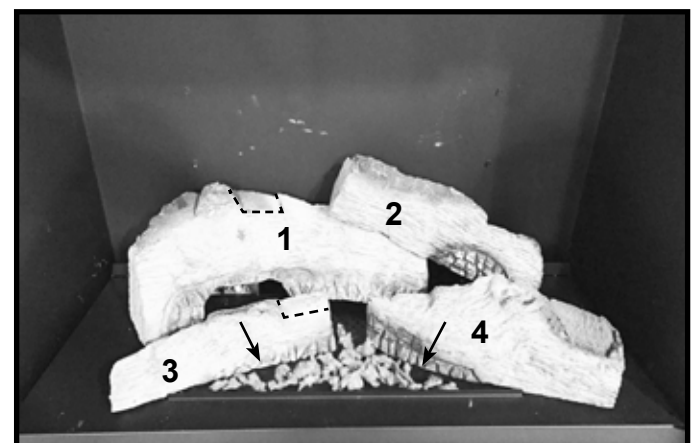

Figure 8.
6. Locate the glowing embers and install them as shown in Figure 1. Do not install any glowing embers on the back row of burner ports. Glowing Embers can be placed directly over burner ports; however, for optimal front flame height, place glowing embers around the burner port clusters indicated by the "arrows" shown in Figure 8.
9. The Middle Left Cross Log (6) will rest on the voids and the base pan lip as shown in figure 8. Install log by placing it on top of the log voids. The tip of the log will contact front lip of base pan. See Figure 11.